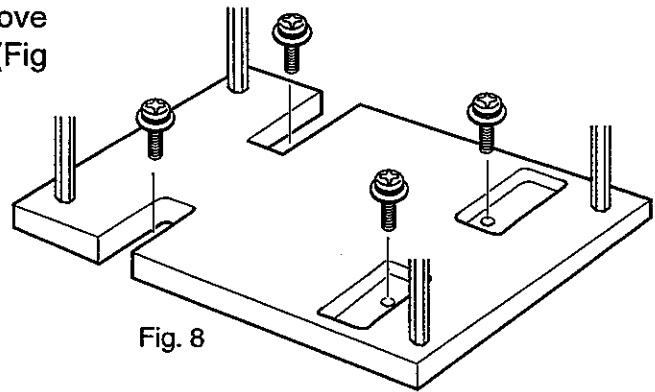

Fig. 8
- Step 5. Invert the alignment fixture and remove the lower flexure assembly screws (Fig 8).